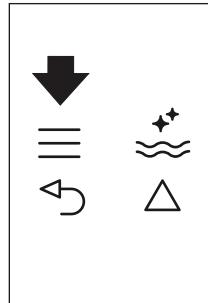
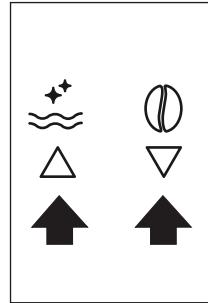

Fig. 22
Fig. 9
- ▶ Press the  icon (B2) to enter the menu (Fig. 22), then press the icons   (B7) and (B8) (Fig. 9) until "PROGRAM CAPPUCINO" is displayed.
- ▶ Press the \equiv icon (B2) to enter the menu (Fig. 22) or press the $\triangle \downarrow$ icons (B7) and (B8) (Fig. 9) until "PROGRAM CAPPUCCINO" is displayed.
- ▶ Press the OK icon (B9) to confirm then the $\triangle \downarrow$ icons (B7) and (B8) (Fig. 9) until "COFFEE FOR CAPPUCC." is displayed.